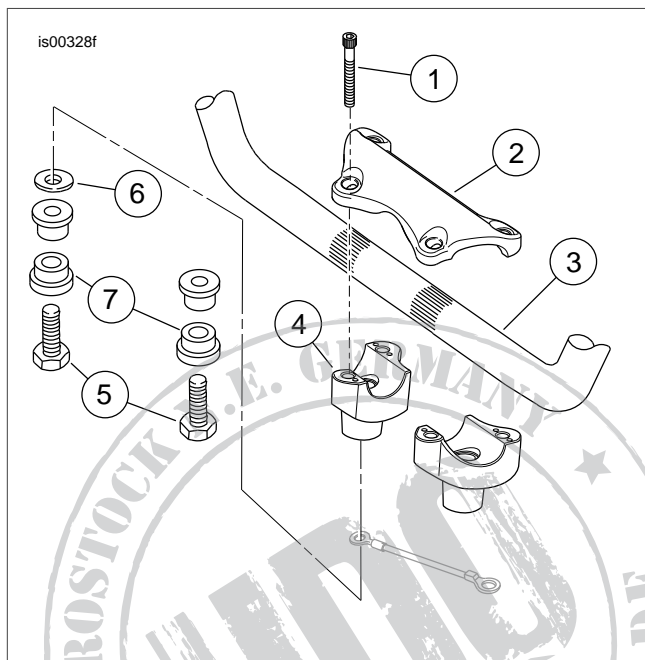

Figure 1. Handle Clamp and Risers
19. See Figure 1. Remove the screws (1) that fasten the handlebar upper clamp (2) to the risers (4), and remove the clamp. Remove the handlebar (3).